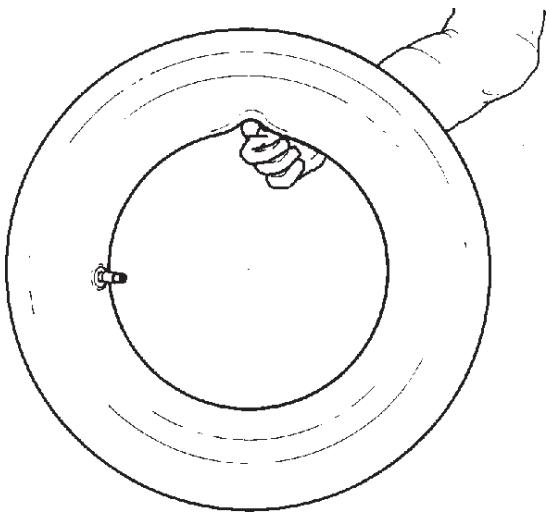

Fig. 5.1-2
C. Inflate the tube slightly: if held with the index finger it should bend a little (Fig. 5.1-2).